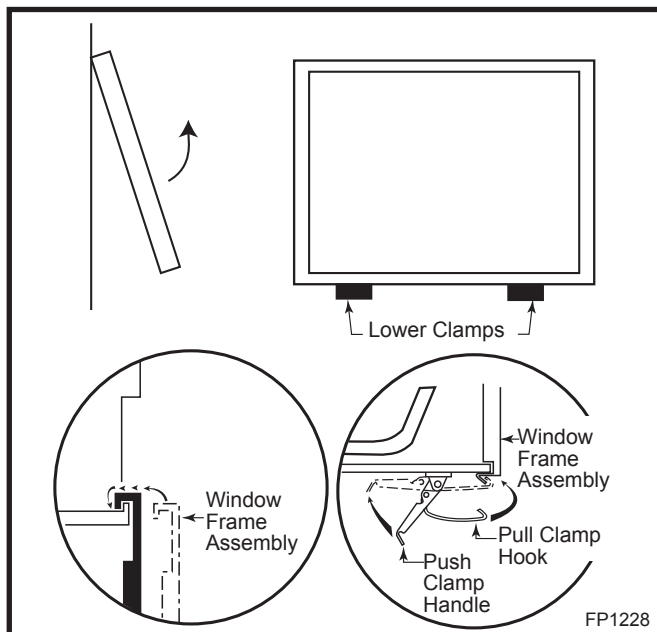

Fig. 62 Window frame assembly removal.
4. Release the two clamps securing the lower edge of the window frame assembly by pulling down on the handles. (Fig. 62)
Separate the ember material into small pieces, roughly 1/2" in diameter and place on the front burner tube. Do NOT pack down, leave in fluffy, loose condition for most realistic ember effect. (Fig. 62)